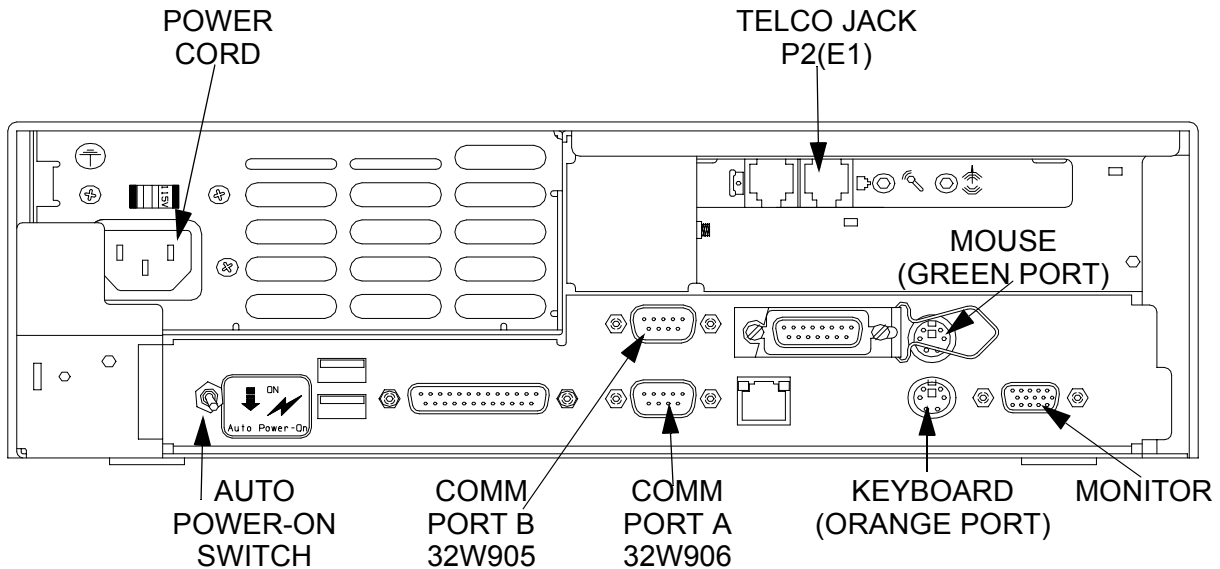

Figure 2 CPU Connection Points
- f. Using the 9-25 pin serial adaptor (part no. 2200025, provided in the kit), connect cable 32W905 to the CPU COMM Port B at the back of the CPU. See figure 2 for the location of COMM Port B. This cable was the EIA cable.
- g. Using the 9-25 pin Null Modem adaptor (part no. 2200106-201, provided in the kit), connect cable 32W906 to the CPU COMM Port A at the back of the CPU. See figure 2 for the location of COMM Port A. This cable was the AUX cable.
- h. Connect the end of the new 10 foot telephone cord (part no. 2320002-306, cable 32W900, provided in the kit) labeled P2(32A9A3TELCO) to the CPU modem TELCO jack and the other end to the surge suppressor (Isotel4) OUT jack (cable end labeled P1(32A1)). See figure 2 for the location of TELCO jack.
- i. Connect the CPU monitor video cable to the CPU monitor jack. (See figure 2)
- j. Position the mouse at the desired location on the table and connect the mouse to the CPU mouse jack. (Green upper port)(See figure 2)
- k. Position the keyboard in front of the CPU and connect the keyboard to the CPU keyboard jack. (Orange lower port)(See figure 2)